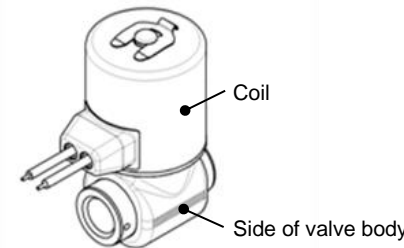

Figure 1. Clamp area of valve
- When connecting piping/fitting to the valve, clamp the side of the body with a vice, etc. See figure 1.